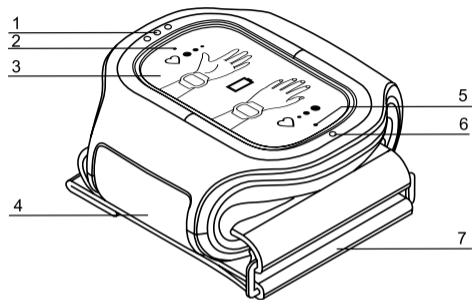
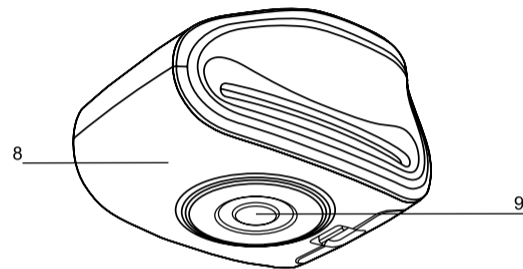

Fig.1a. Construction and appearance (top)
Fig.1b. Construction and appearance (bottom)
6.1. Appearance of electrostimulator “ABP-051” is presented on Fig.1a and Fig.1b.
12.9. Turn on the electrostimulator pressing the button, pos.1 (Fig.1a) if you have high blood pressure, or button, pos.6 (Fig.1a) if you have the low blood pressure.
When you force the electrostimulator, press and hold On/Off button in pos.1 or pos.6 (Fig.1a) pressed for over 1 second depending on active treatment program. The device will give the sound signal and turn off, the LED indicator will fade away.